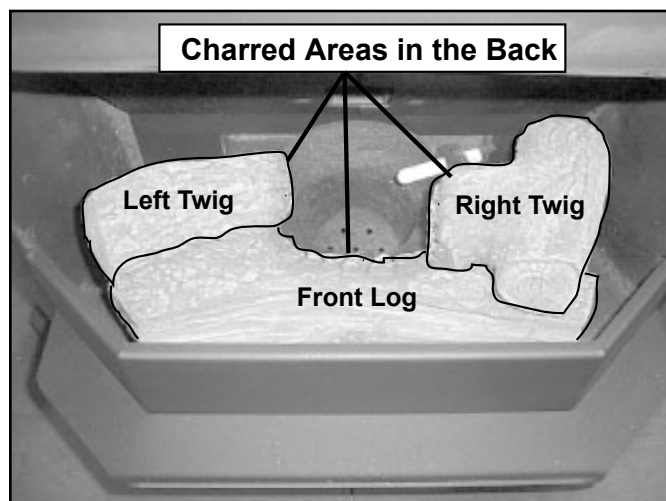

Figure 20.2
2. Set the left and right twigs onto the log, placing the holes in the base of twigs over the locating pins in log. See **Figure 20.2**. Ensure that the charred ends are facing the firepot.